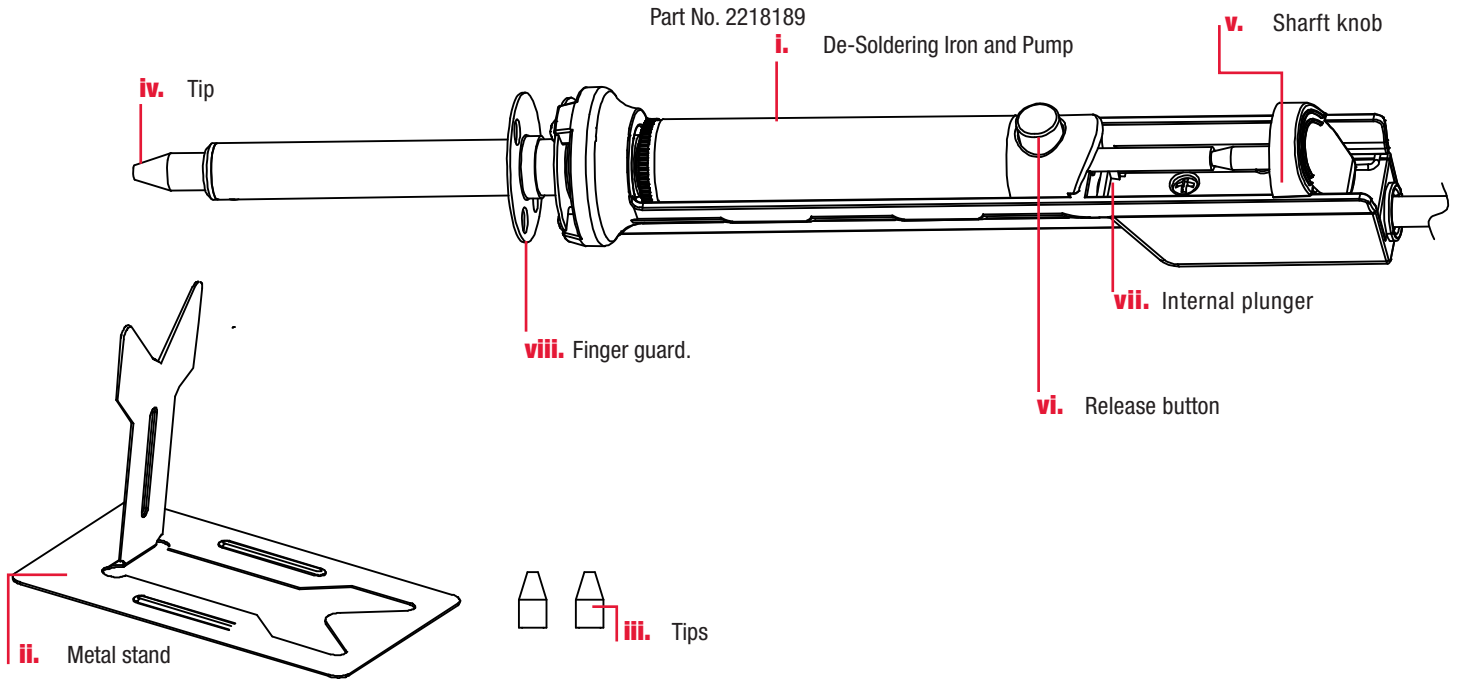
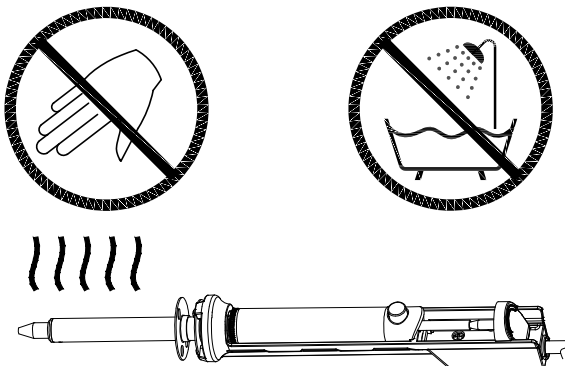

Fig. 1
Fig. 4 - WARNING - hot tip when in use, do not touch, keep De-Soldering Iron clean and away from oils and lubricants. Do not immerse De-Soldering Iron in water
- Indoor use. Do not expose De-Soldering Iron to rain or wet conditions. Water entering a De-Soldering Iron will increase the risk of electric shock (Fig. 4)
- Keep handles and grasping surfaces dry, clean and free from oil and grease. (Fig. 4) Slippery handles and grasping surfaces do not allow for safe handling and control of the De-Soldering Iron in unexpected situations.
- Keep hands clear of the tip serious burns can occur if skin contacts tip (Fig. 4)
- To reduce the risk of fire, personal injury, and product damage due to a short circuit, never immerse your De-Soldering Iron, battery pack or charger in fluid or allow a fluid to flow inside them. Corrosive or conductive fluids, such as seawater, certain industrial chemicals, and bleach or bleach-containing products, etc., can cause a short circuit. (Fig. 4)
- To reduce the risk of injury, always wear safety goggles or glasses with side shields. Keep hands and fingers behind finger guard (Fig.1 / vii). Serious burns could occur if skin contacts a hot tip.(Fig. 4)
8. Push down the shaft knob (Fig. 1 / v) of the pump with your thumb all the way down until it clicks
9. Hold the De-Soldering Irons with your thumb over the release button (Fig. 1 / vi)